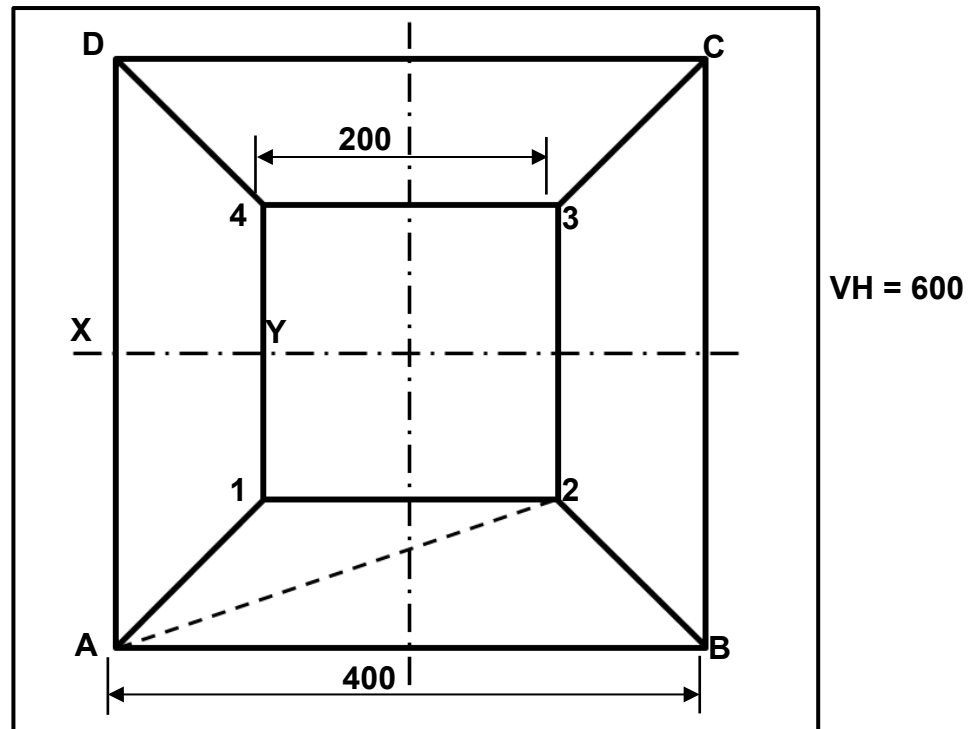

FIGURE 11.2
- 11.2 FIGURE 11.2 below shows a square-to-square on-centre hopper. The vertical height (VH) of the hopper is 600 mm.